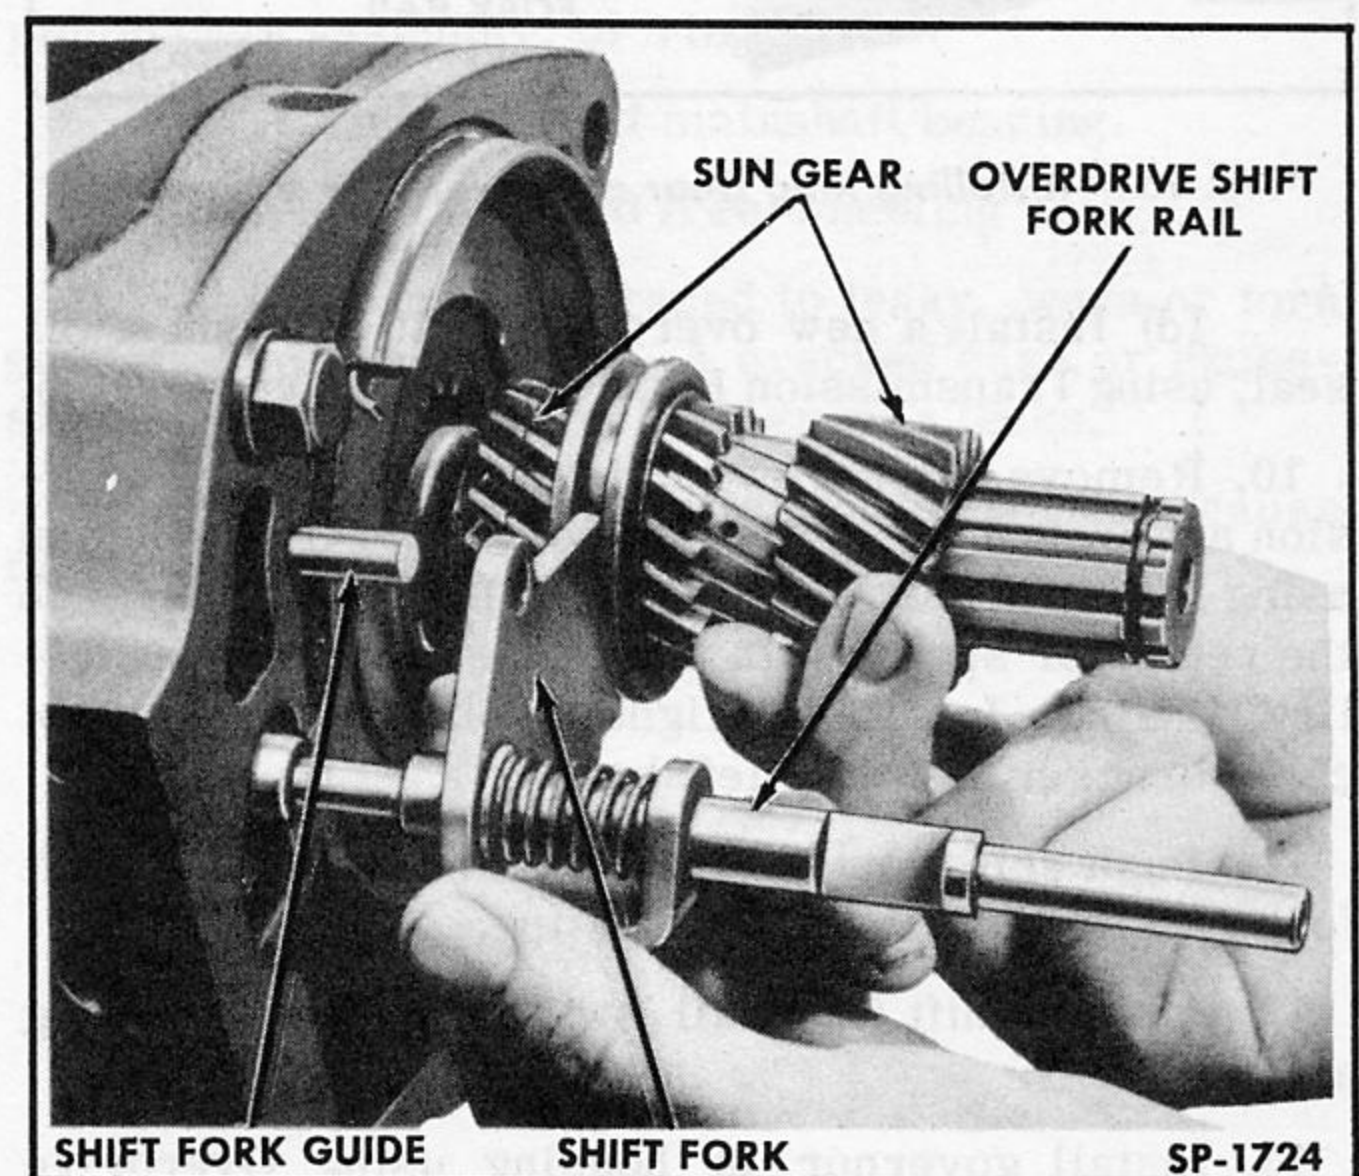

Fig. 150—Installing Sun Gear and Shift Fork Rail
4. Install sun gear and shift fork rail together (Fig. 150).